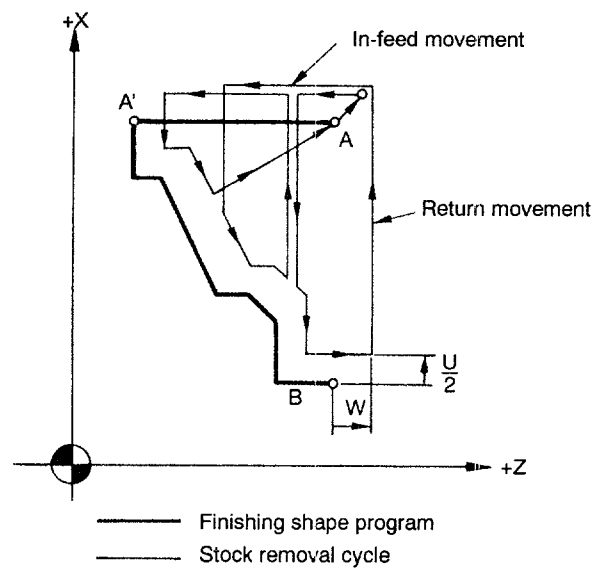

Fig. 4.34 Skipping the Rough Finishing Cycle
- If “ $I = 0, K = 0$ (or no designation)””, the cycle finishes by skipping the rough finishing cycle as shown in Fig. 4.34.